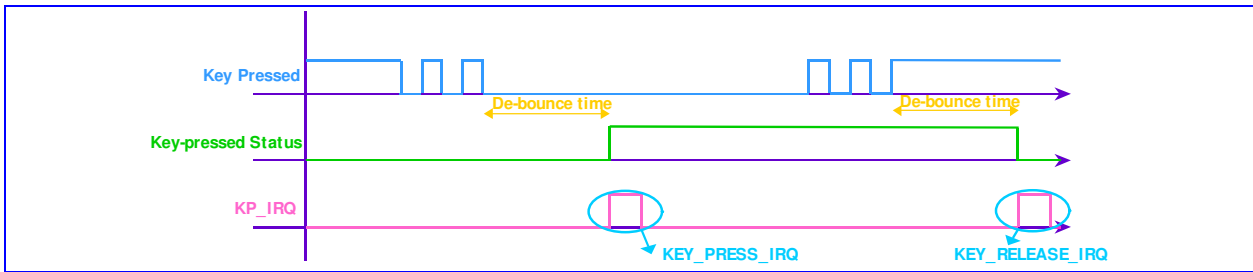
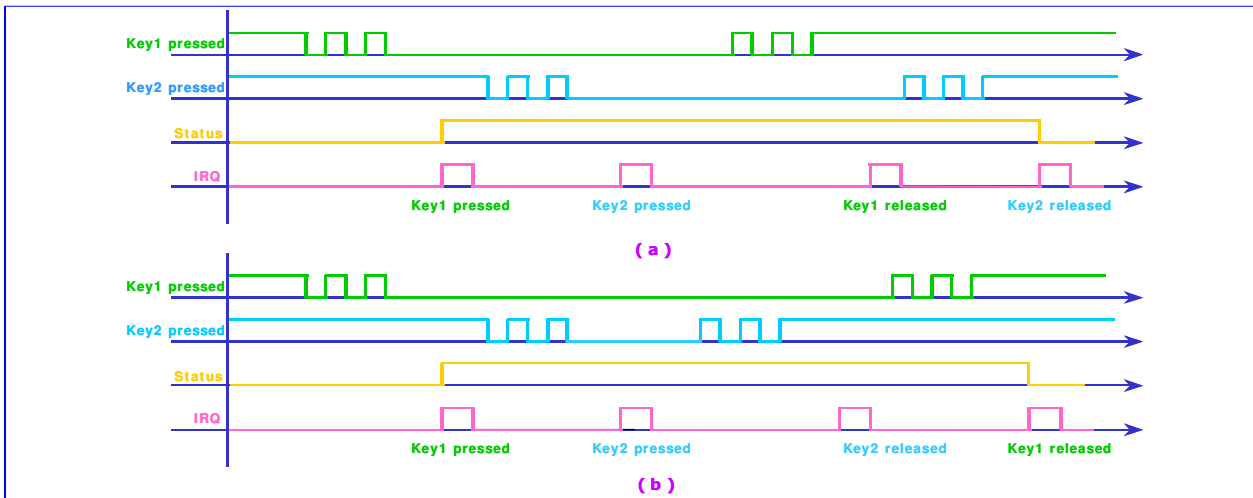
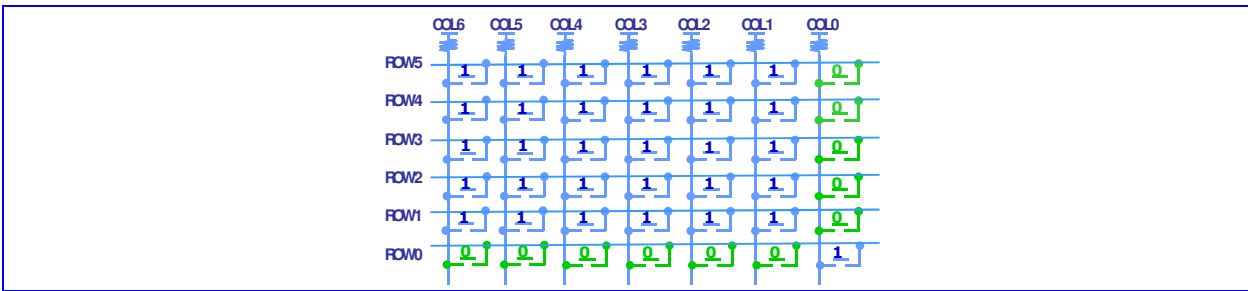

Figure 60 One key pressed with de-bounce mechanism denoted
Figure 61 (a) Two keys pressed, case 1 **(b)** Two keys pressed, case 2
Figure 62 11 keys are detected at the same time
or released, i.e. something different in the 7 x 6 matrix, the key detection block will sense it, and it will start to recognize if it is a key pressed or key released event. Whenever the key status changes and is stable, a KEYPAD IRQ will be issued. The MCU can then read the key(s) pressed directly in KP_HI_KEY, KP_MID_KEY and KP_LOW_KEY registers. To ensure that the key pressed information will not be missed, the status register in keypad will not be read clear by APB bus read command. The status register can only be changed by the key-pressed detection FSM. This keypad can detect one or two key-pressed simultaneously with any combination. **Figure 60** shows one key pressed condition. **Figure 61(a)** and **Figure 61(b)** indicate two keys pressed cases. Since the key press detection depends on the high or low level of the external keypad interface, if keys are pressed at the same time and there exists a key that is on the same column and the same row with the other keys, it will not be able to decode the correct key pressed. For example, if there are three key presses: key1 = (x1, y1), key2 = (x2, y2), and key3 = (x1, y2), then both key3 and key4 = (x2, y1) will be detected, and therefore it will not possible to distinguish correctly. Hence, the keypad can detect only one or two keys pressed simultaneously at any combination. Due to the keypad interface, more than two keys pressed simultaneously with some specific pattern will get the wrong information. If these specific patterns are excluded, the keypad-scanning block can detect 11 keys at the same time and it's shown as **Figure 62**.